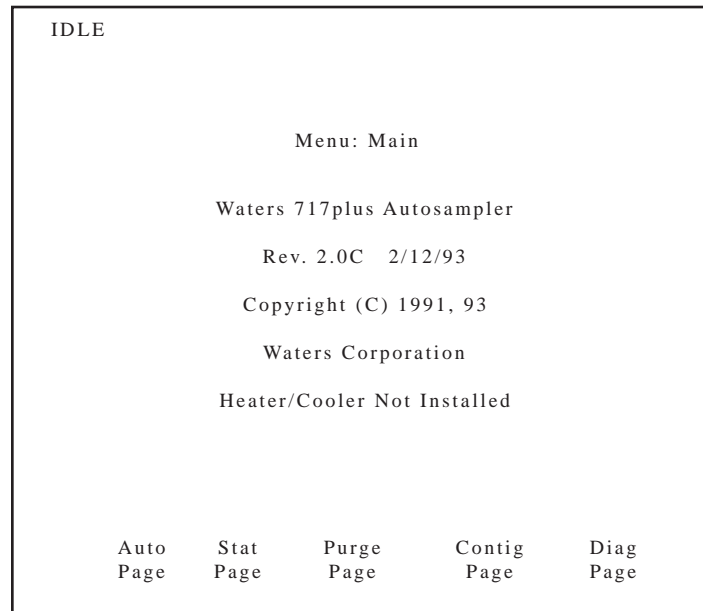

Figure 3-2 Main Menu
2. Wait for the initializing sequence to complete and the IDLE message to appear in the upper left corner (Figure 3-2).
The Main Menu (see Figure 3-2) provides access to the main system operations:
2. Use the arrow keys (see Figure 3-2) to highlight the parameter you want to change.